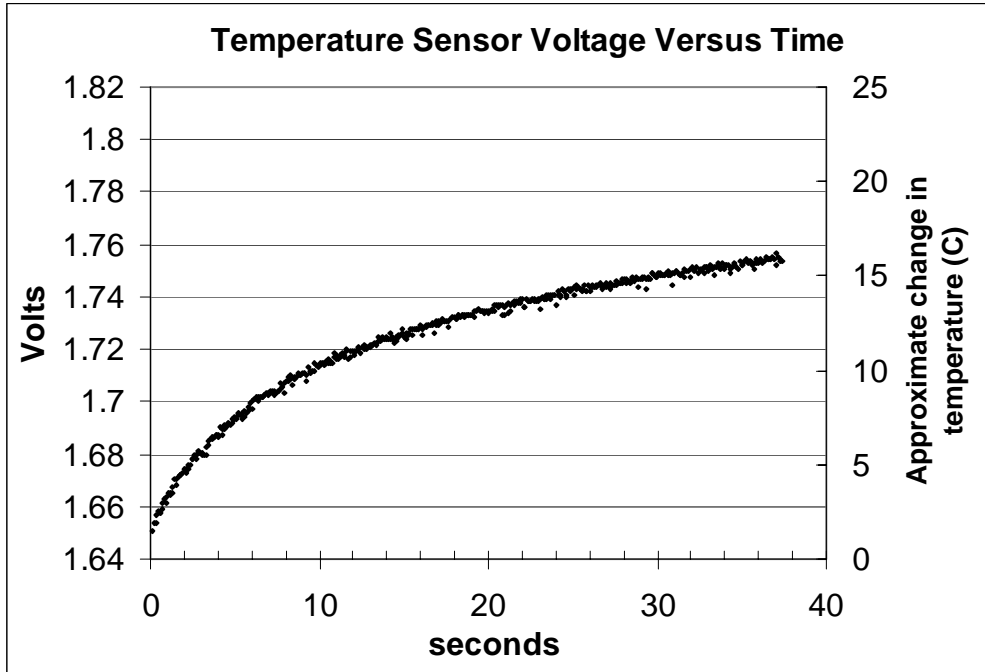
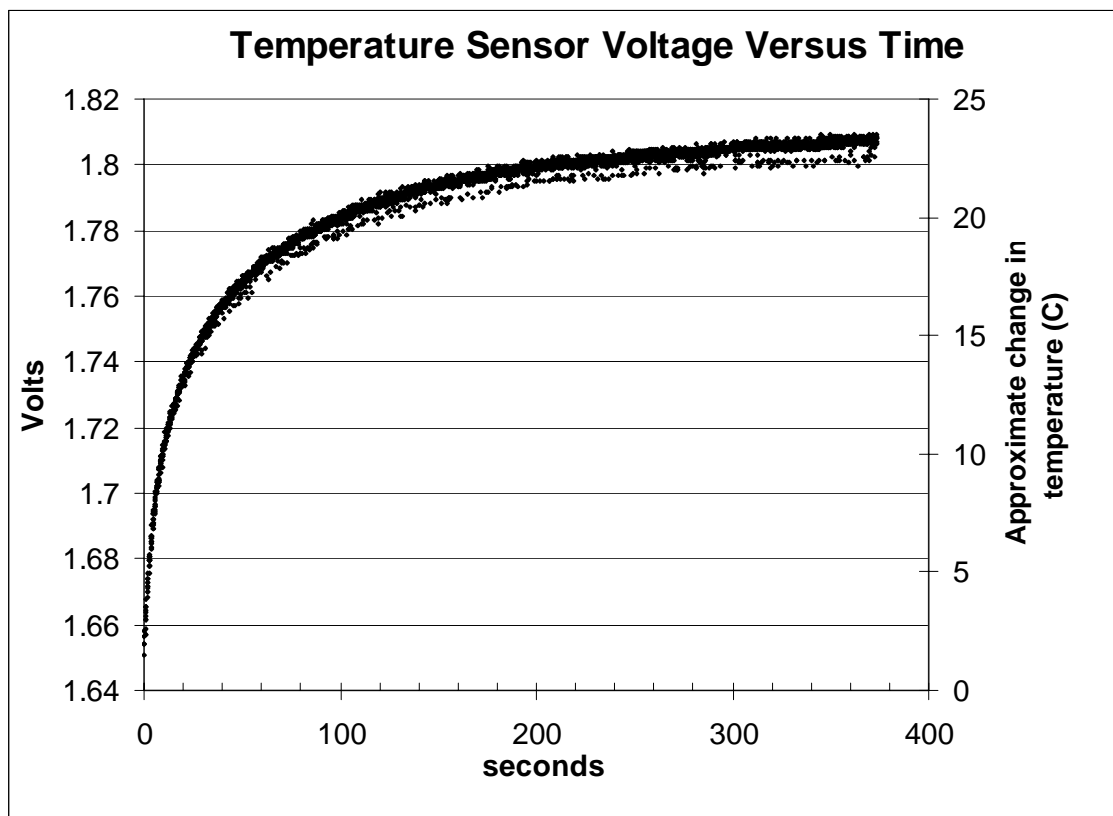

Figure 4-4. Estimated Tj Over Time (A)
Figure 4-5. Estimated T_j Over Time (B)
These readings can be used with Equations (1) through (3) (See Section 3.) to calculate T_j . Both V_{TS} and T_j are shown in Figure 4-4 and Figure 4-5. The data is the same for both figures, although Figure 4-4 has an expanded time scale to focus on the initial seconds.